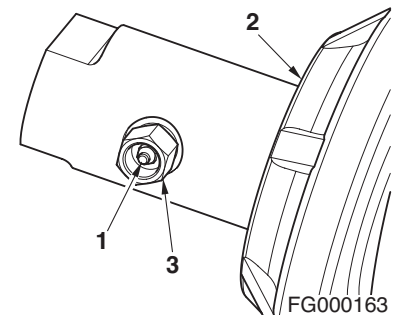

Figure 3
5. Track tension adjustments are made through the grease fitting (1, Figure 3) in the middle of each side frame. Adding grease increases the length of an adjustment cylinder (2). The longer the adjustment cylinder, the greater the pressure on the tension spring pushing the track idler wheel outward.
6. If there is not enough slack or clearance in the tracks and the adjustment is too tight, the idler wheel and adjusting cylinder can be retracted by bleeding off grease through hole in adjustment cylinder (2, Figure 3).